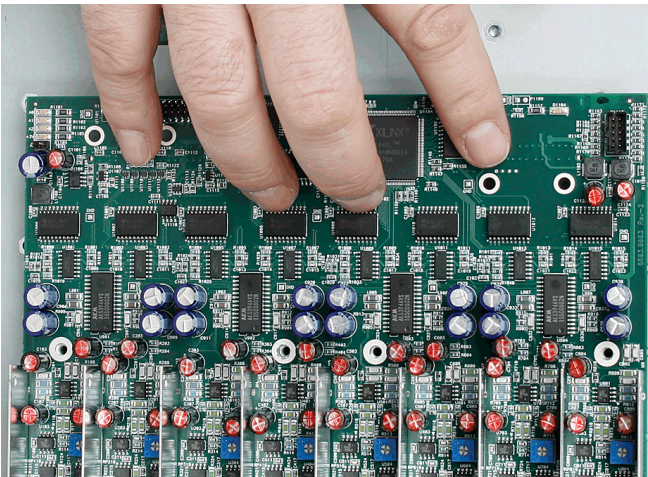

Figure 4 Seating the rear section of the BCAS module.
- Press the module down firmly so that the connectors underneath mate fully. Confirm that the BCAS module is firmly attached by gently trying to lift the board near the rear edge. When correctly attached, the board will stay seated (Figure 4).